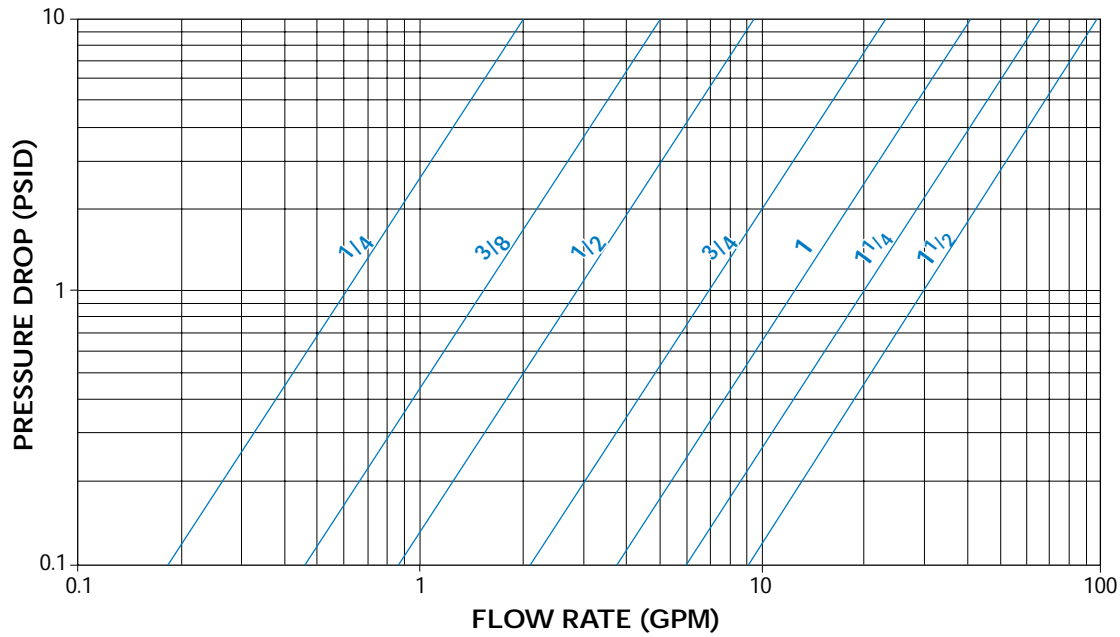

FIGURE 1
\*Multiply values obtained from figure 1 thru 4 by the appropriate values shown below
- A)** Using figure 1 the pressure drop is determined to be 1.0 psid with IFC's standard screen.
- 1) Using figures 1 or 2 determine the pressure drop (P1) through the strainer with water flow and standard screens.
- 4) Using Chart #2 multiply P3 by the appropriate Component Factor (CF) to get P4.
- 6) Multiply P4 by the appropriate Body Loss Factor (BF) in Chart #3 to get P6.